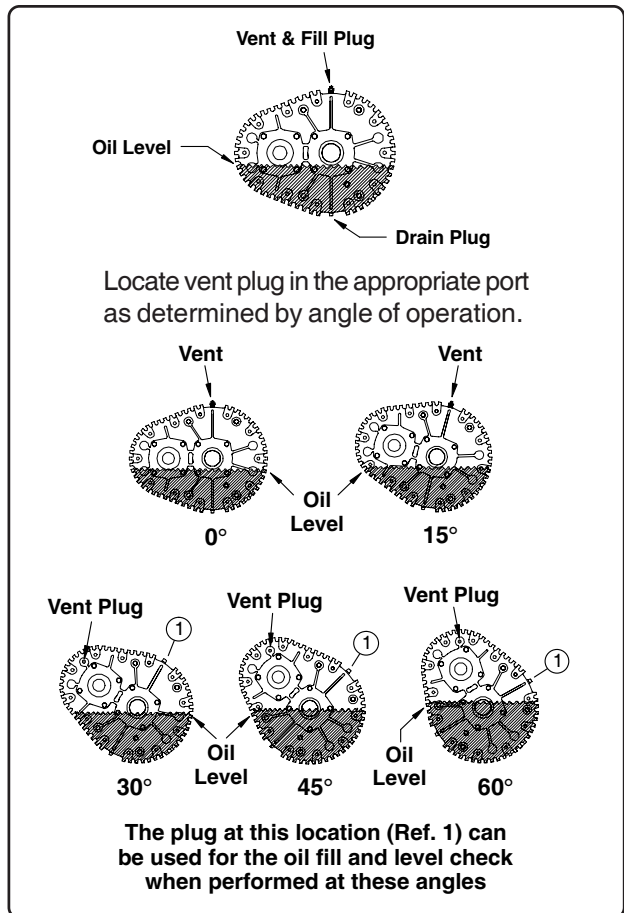

Fig. 19
1. With conveyor in the full down position, remove the vent/fill plug from the top of the gearbox as shown in Fig. 19 (when reinstalling the vent plug, locate vent plug in appropriate port as shown in Fig. 19).
1. Loosen the four (4) carriage bolts on each of the take-up slides on the head section located at the discharge end of unit, See Fig. 19 (there will be a total of eight carriage bolts).